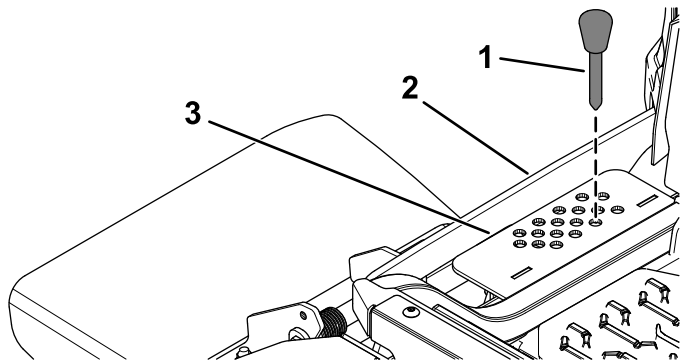

Figure 34
2. Select a hole in the height-of-cut bracket corresponding to the height of cut desired, and insert the pin (Figure 34).
3. Push down on the deck-lift switch until the height-of-cut linkage slightly contacts the height-of-cut pin (Figure 34).